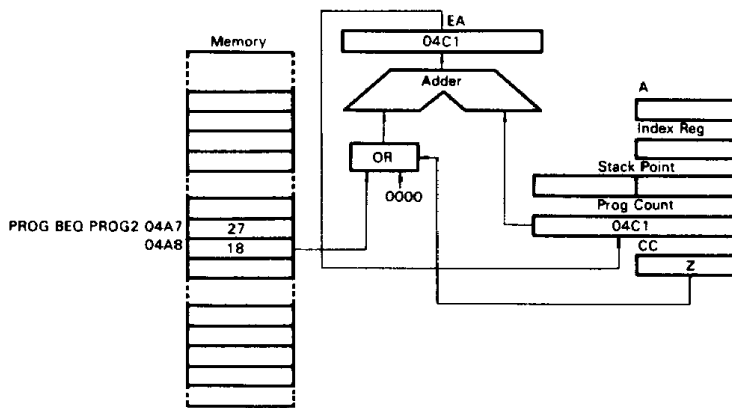

Figure 27 Example of Relative Addressing
See Fig. 27. The relative addressing mode is used with branch instructions only. When a branch occurs, the program counter is loaded with the contents of the byte following the operation code.  $EA = (PC) + 2 + Rel.$ , where Rel. indicates a signed 8-bit data following the operation code. If no branch occurs, Rel. = 0. When a branch occurs, the program jumps to any byte in the range +129 to -127. A branch instruction requires a length of 2 bytes.